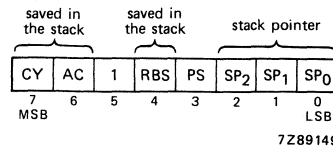

Fig. 18 Program status word.
**Program status word** (see Fig. 18)